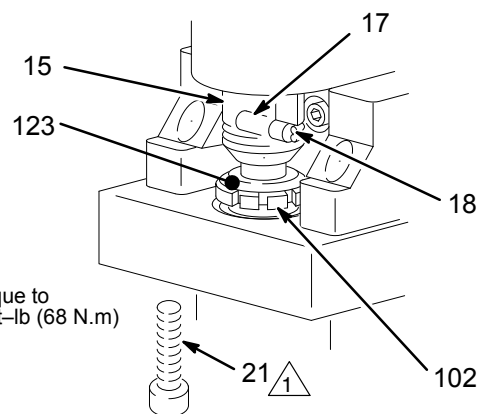

Fig. 18
- a. Remove the pump connecting rod pin (17). See Fig. 18, page 22.
11. **Break in the brushes.** Operate the sprayer for at least one hour with no load. Install the pump connecting rod pin. See Fig. 18, page 22.
### Installing the pump (See Fig. 18 and 19.)
Be sure the retaining spring (18) is firmly in the groove all the way around, to prevent the pin (17) from working loose due to vibration. See Fig. 18.